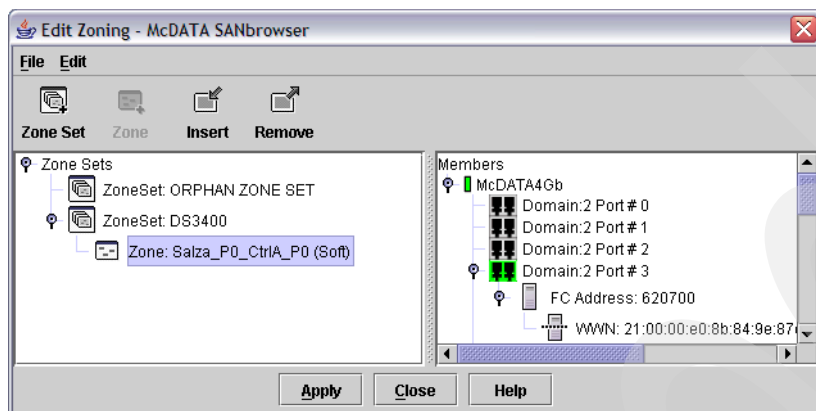

Figure 24-8 Zone created
5. The new zone now appears in the right column if you expand the zone set (Figure 24-8). Highlight the zone, then drag and drop the WWNs of the members to the zone. Click the WWN of the BladeCenter HBA and drop it on the zone, and repeat this for the DS3400 port.